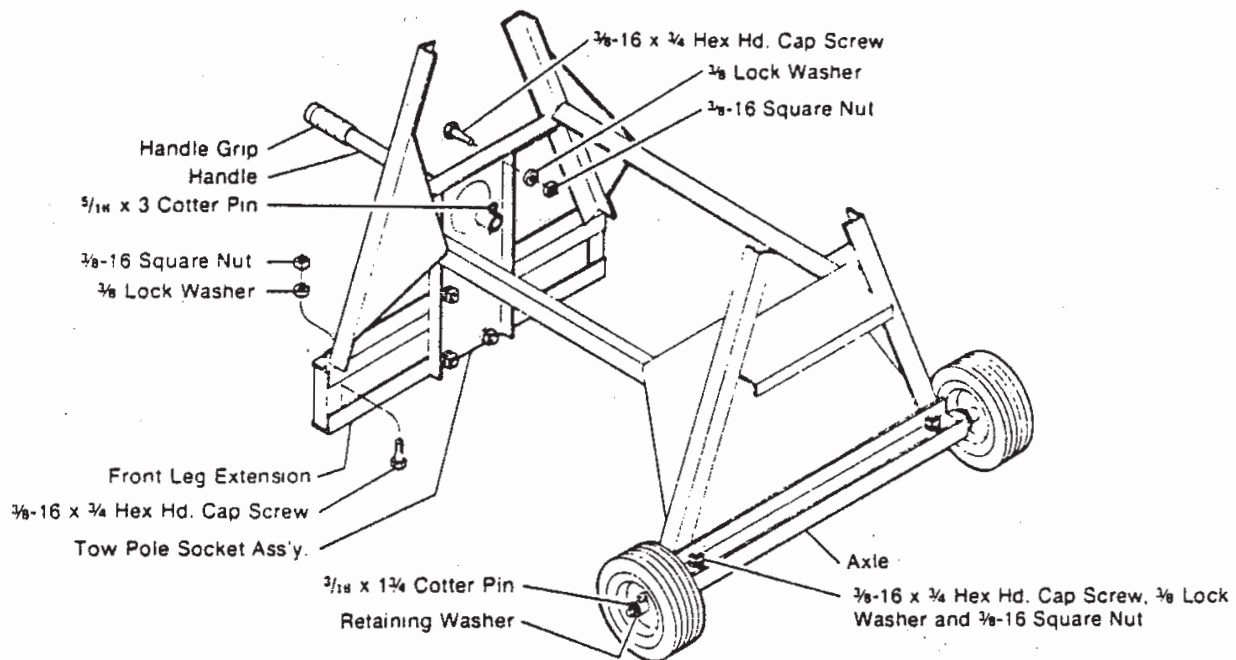

FIG. 1
2. Assemble wheels to axle. Slide wheel onto end of axle and secure with a retaining washer and 3/16 x 1 1/4 cotter pin. See Figure 1.
3. Secure axle to power side of mixer frame. Secure with (2) 3/8-16 x 3/4 hex hd. capscrews, 3/8 lockwashers and 3/8-16 square nuts. See Figure 1.
4. Secure front leg extension, Fig. 1, to tilt side of mixer frame. Secure with (2) 3/8-16 x 3/4 hex hd. capscrews, 3/8 lockwashers and 3/8-16 square nuts.
5. Assemble tow pole socket ass'y to mixer as shown in Figure 1. Secure to frame using (6) 3/8-16 x 3/4 hex. hd. capscrews, 3/8 lockwashers and 3/8-16 square nuts.
7. Slide handle through hole in tow pole socket ass'y and secure with a 3/16 x 3" cotter pin. See Figure 1.